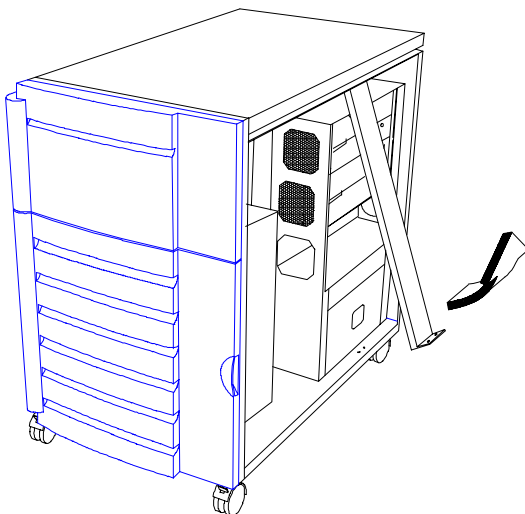

Figure C-2 Pulling Out the Metal Bar
3. Pull out the metal bar from the lower end and unhook the upper end from the housing roof (see Figure C-2).